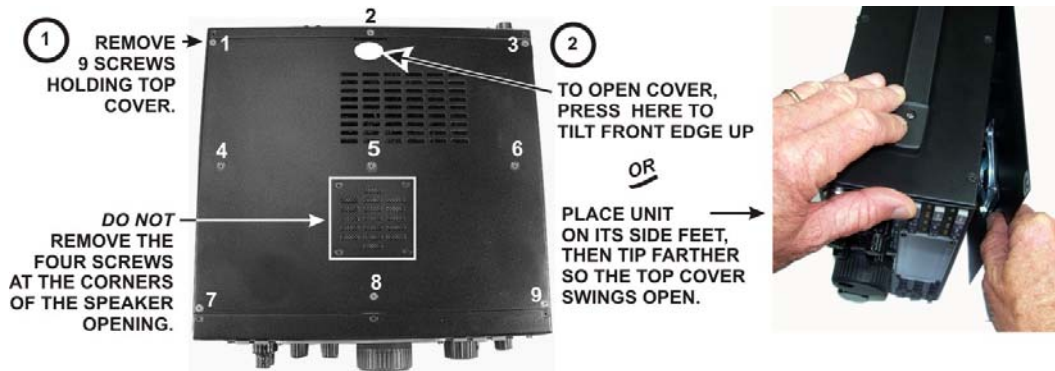

Figure 2. Removing the Top Cover.
- Remove the K3 top cover as shown in Figure 2.